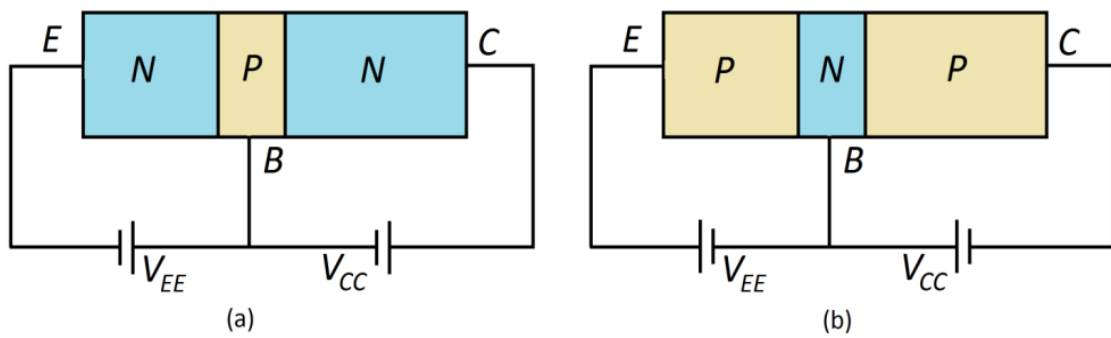

Figure 1. Types of Transistors (a) NPN (b) PNP
- **THEORY AND FORMULA USED:-** The transistor is a three-layer semiconductor device consisting of either two n- and one p-type layers of material or two p- and one n-type layers of material. The former is called an npn transistor, while the latter is called a pnp transistor. Both are shown in Fig. 1 with the proper dc biasing. The dc biasing is necessary to establish the proper region of operation for ac amplification. The emitter layer is heavily doped, the base lightly doped, and the collector moderately doped. The outer layers have widths much greater than the sandwiched p- or n-type material.
The doping of the sandwiched layer is also considerably less than that of the outer layers (typically, 10:1 or less). These lower doping level decreases the conductivity (increases the resistance) of this material by limiting the number of “free” carriers. For the biasing shown in Fig. 1 the terminals have been indicated by the capital letters E for emitter, C for collector, and B for base. An appreciation for this choice of notation will develop when we discuss the basic operation of the transistor. The abbreviation BJT, from bipolar junction transistor, is often applied to this three terminal device. The term bipolar reflects the fact that holes and electrons participate in the injection process into the oppositely polarized material